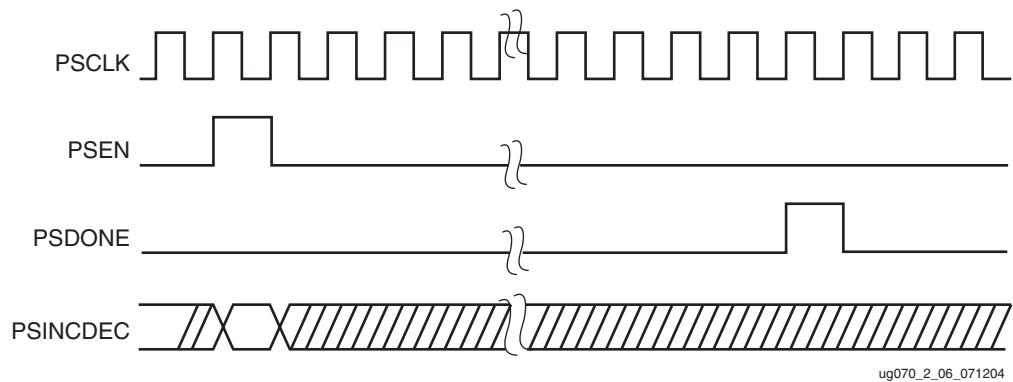

Figure 2-6: Phase-Shift Timing Diagram
Figure 2-6 illustrates the interaction of phase-shift ports.
When PSEN is activated after the phase-shift counter has reached the maximum value of PHASE\_SHIFT, the PSDONE will still be pulsed High for one PSCLK period some time after the PSEN is activated (as illustrated in Figure 2-6). However, the phase-shift overflow pin, STATUS(0), or DO(0) will be High to flag this condition, and no phase adjustment is performed.